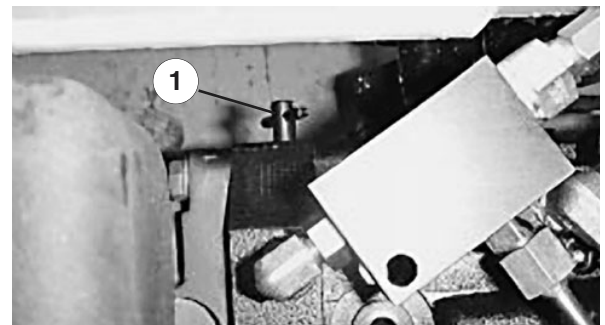

Figure 14
1. Reach under the traction unit and turn the bypass valve (Fig. 14)  $\frac{1}{2}$  to 1 turn counterclockwise. Opening the valve opens an internal passage in the transmission, thereby bypassing transmission oil. Because fluid is bypassed, the traction unit can be moved without damaging the transmission.